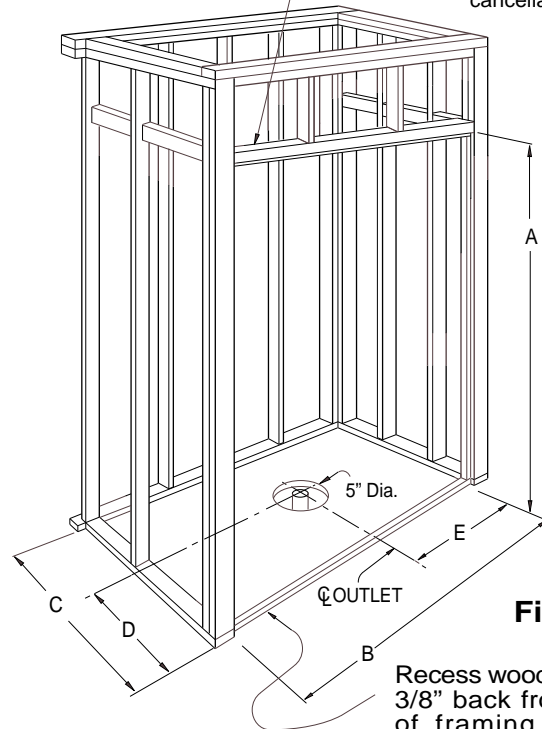

Figure 3
1. Make certain your recessed framed pocket is square and plumb in accordance with framing dimensions. You may use wood or metal 2 x 4 studs minimum. Install 1 x 2 furring strips for mounting unit. (See Figure 3). Some studding may remain loose or be temporarily omitted to permit unit installation into the framing pocket.
2. Provide a cutout in the floor to provide clearance for drain connection. See framing diagram (Figure 3) for cutout sizes. Locate to dimensions shown (D and E) in framing diagrams.